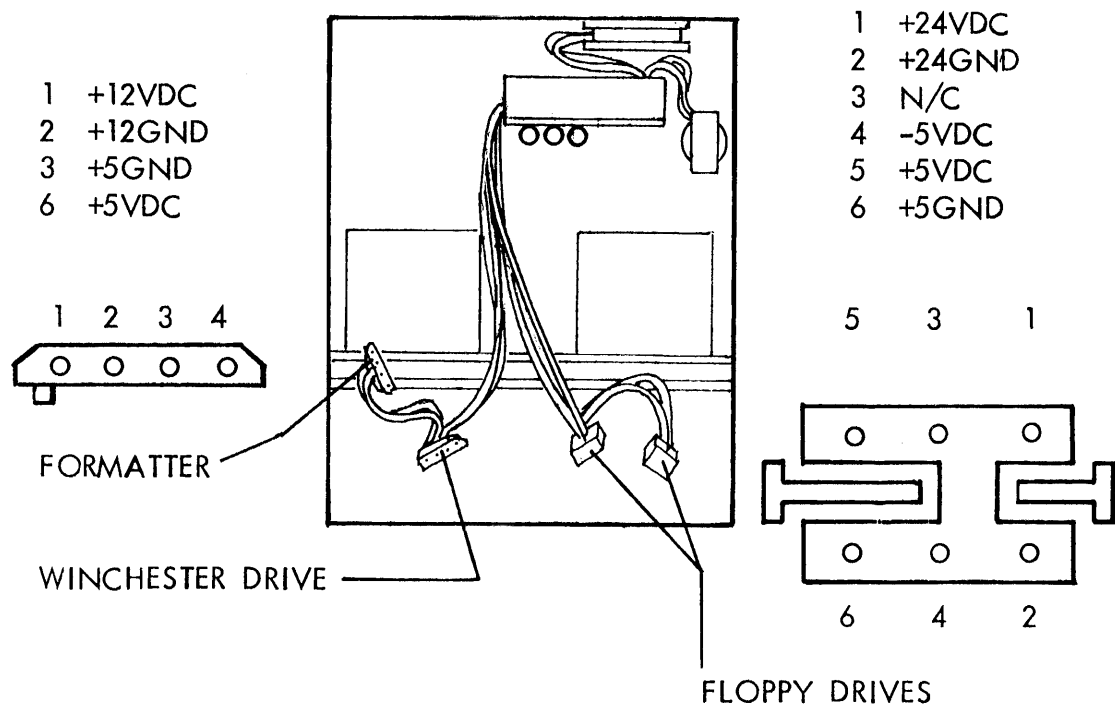

FIGURE 2: DC POWER CONNECTORS
Before installing the drives, verify correct DC power at the cable connectors. The cable connectors are illustrated, and voltages are defined, in Figure 2 below.
4. Connect power cables shown in Figure 2 to associated connectors.